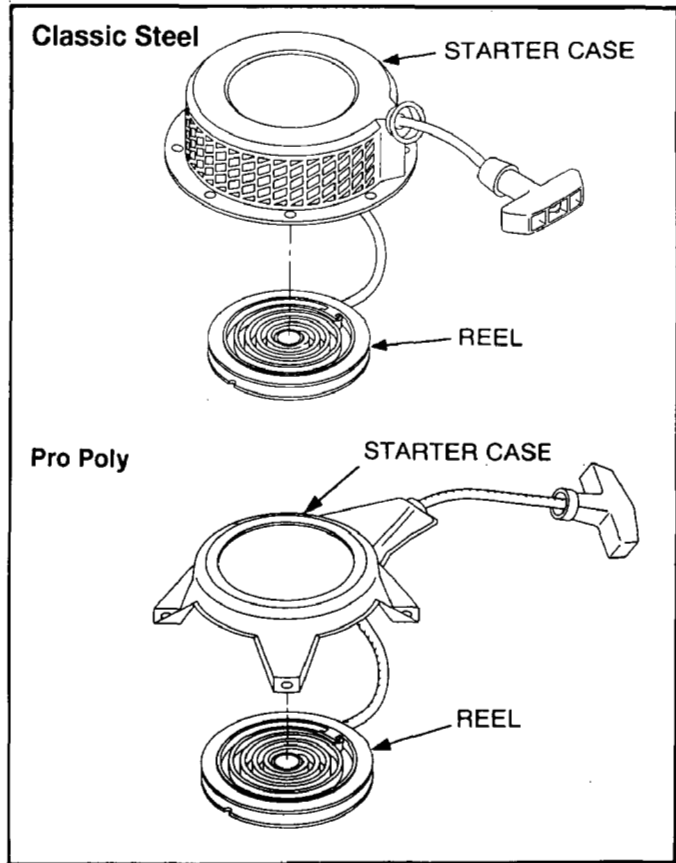

Fig. 9-3
(4) Remove the reel from the starter case as shown in Fig. 9-3.